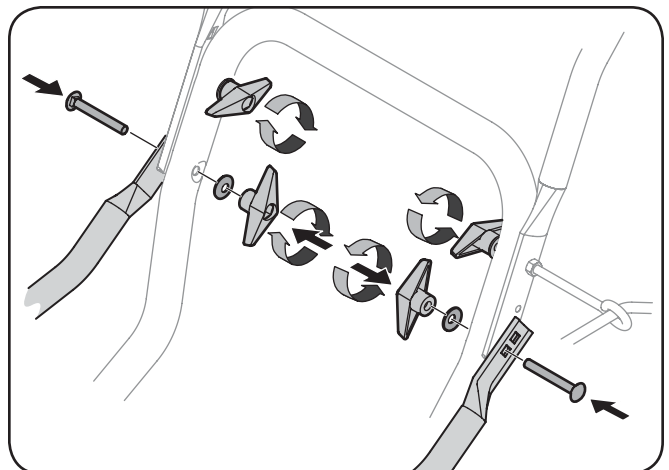

Figure 3-3
5. Secure the upper handle, support tubes and lower handle with the two wing nuts and carriage bolts removed earlier. Tighten the two wing nuts already installed in the upper holes to firmly secure the upper handle and support tubes. See Fig. 3-3.